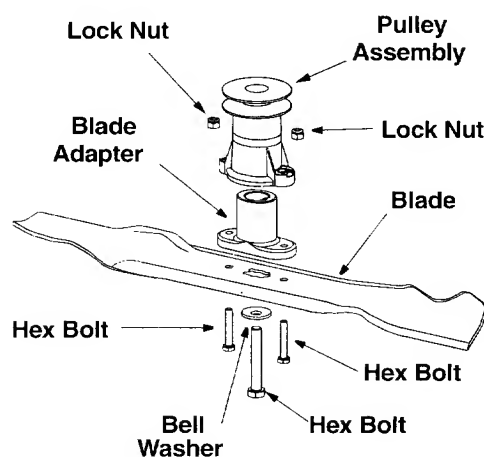

Figure 16
- Remove the bolt and bell washer which hold the blade-pulley assembly to the engine crankshaft. See Figure 16. Remove assembly from crankshaft.
- Install the blade adapter on the pulley with the "star" away from the pulley. See Figure 16.
- Install the blade assembly on the crankshaft. See Figure 16. Secure with the hex bolt and bell washer (cupped side of washer to blade) and tighten to the recommended torque. Refer to 'Blade Mounting Torque' section on this page.